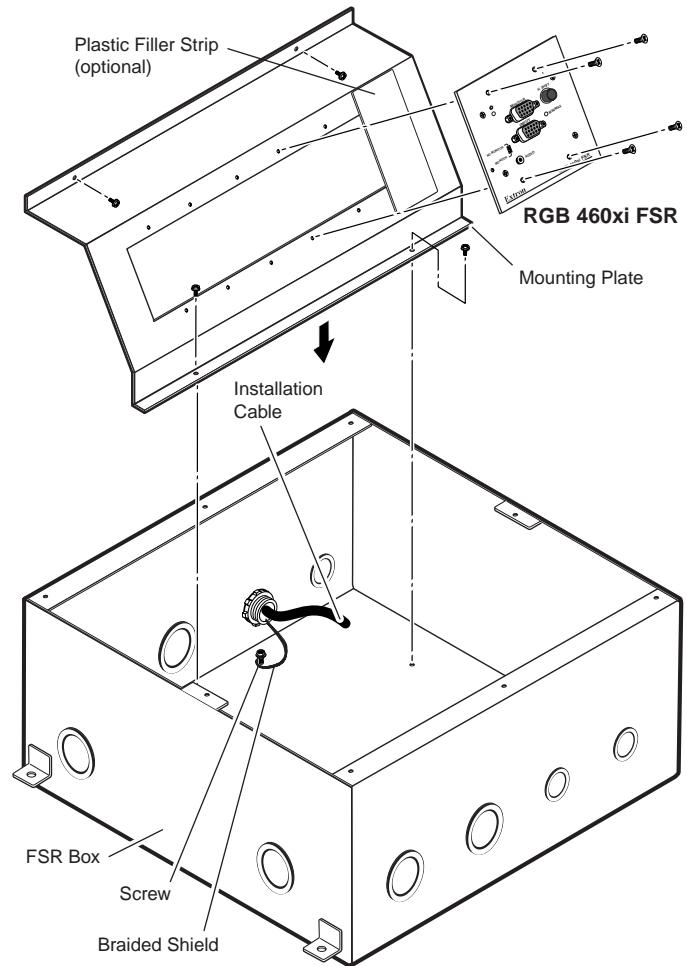

Figure 1 — Securing the RGB 460xi FSR adapter plate to the floor box and grounding the braided shield
3. Exposed cable shields (braids or foil) are potential sources of short circuits. Trim back and/or insulate shields with heat shrink, or ground the shield to the box (figure 1).